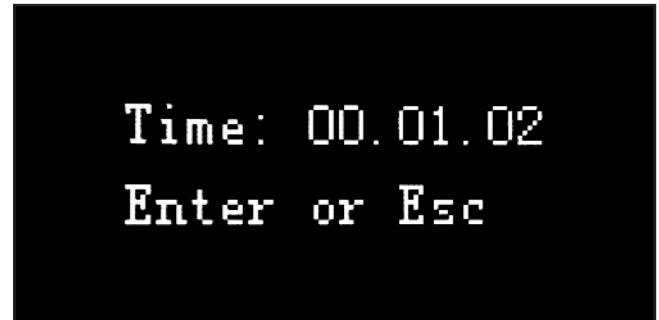

Figure 60. Job duration displayed on screen.
4. When computer finishes calculating total cutting/engraving time, job duration is displayed on screen, as shown in **Figure 60**.